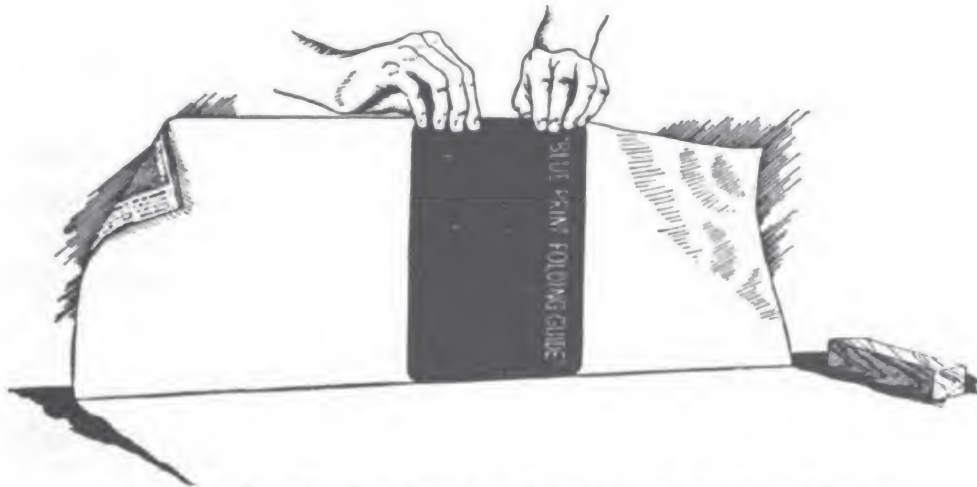
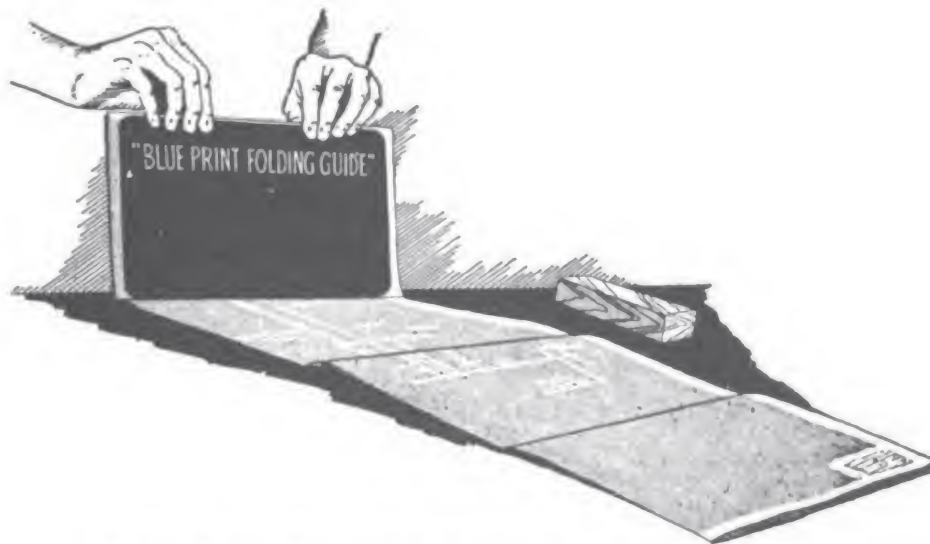

Figure 1-2.—First fold, showing use of folding board.
Figure 1-4.—The width is folded in 8½-inch folds.
the outside in the upper right-hand corner of the print. The fold size should be approximately $8\frac{1}{2}$ inches by 11 inches (standard business letter size). The so-called "accordion-pleated form," with vertical folds as shown in figures 1-2 and 1-3, should be used.
3. A creasing device, that is, a smooth block of wood, metal, or plastic, or a glass paperweight, should be used to press the folds into LIGHT creases. (See fig. 1-4.)
5. On all roll-size blueprints (that is, on all prints except those of the sizes listed above) the accordion fold is made by use of the folding board. In each case the first fold (fig. 1-2) is made from the end that carries the drawing number, and it is an 11-inch fold. Each fold thereafter (fig. 1-3) is 11 inches, except the last, which in some cases may be less. After the LENGTH of the print has been folded down into the required number of 11-inch accordion folds, the WIDTH is folded in 8½-inch folds. (See fig. 1-4.) These may be rolled or straight folds.